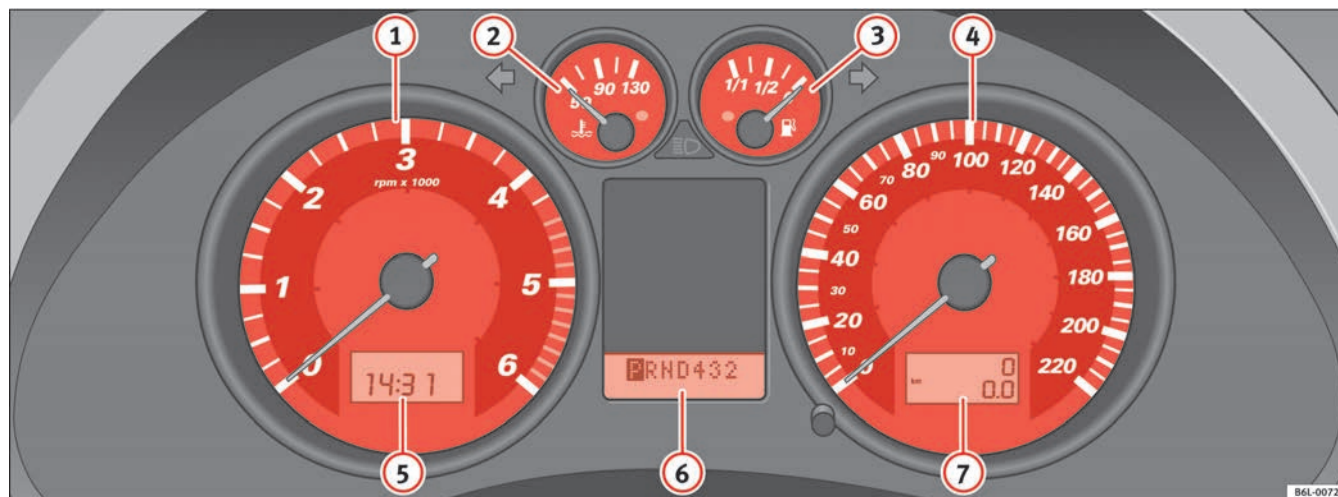

Fig. 32 Detailed view of dash panel instrument panel
The start of the red zone on the dial ⇒ page 52, fig. 32 ① indicates the maximum engine speed which may be used briefly when the engine is warm and after it has been run in properly. However, it is advisable to change up a gear or move the selector lever to D (or lift your foot off the accelerator) before the needle reaches the red zone.
- Turn the setting knob ⇒ page 52, fig. 32  anti-clockwise to the stop to set the hour. If the knob is turned briefly anti-clockwise the clock will advance one hour further.